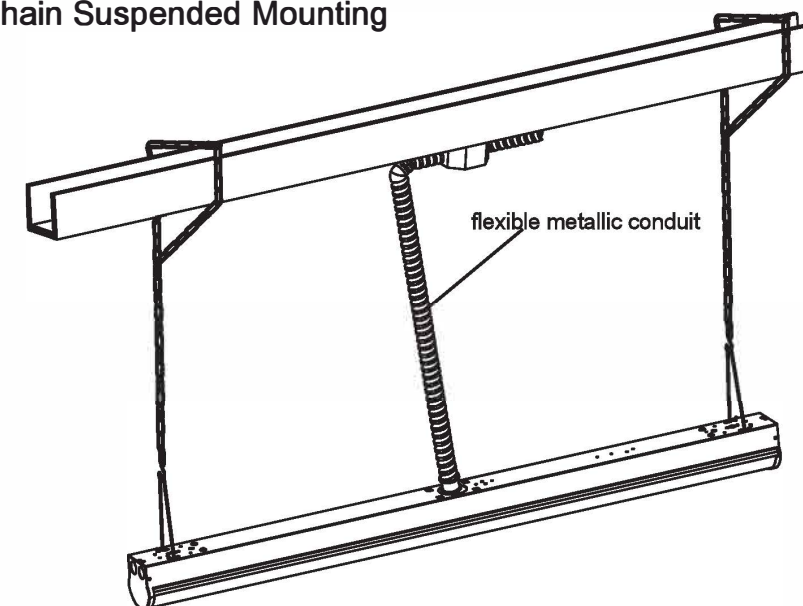

Figure 2
- Step2: Open the lens, then unscrew the screws at both ends of top enclosure. Wire to main power through the concealed outlet box. (Figure 2)
- Step2: Fasten the chips by drilling screws into the prepunched holes of fixture body (fig 2)